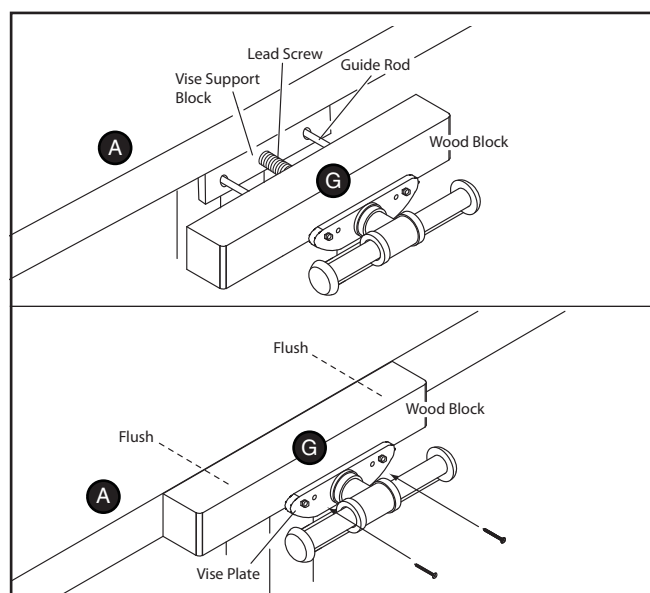

Figure 8. Table vise installation.
11. With the help of an assistant, return the workbench to the upright position, and lower the table top (A) onto the legs making sure to line up the pre-drilled holes in the legs and the underside of the workbench.
13. Insert the guide rods and leadscrew through the holes in the wood block (G) (**Figure 8**). Thread the leadscrew into the vise support until the wood block is slightly snug against the table and flush with the table top.
14. Keeping the wood block flush with the table top (**Figure 8**), drill two $\frac{5}{64}$ " holes $1\frac{7}{16}$ " deep through the vise plate mounting holes and into the wood block.
15. Secure the vise plate to the wood block with two (H1) #5 x $1\frac{7}{16}$ " wood screws (**Figure 8**).